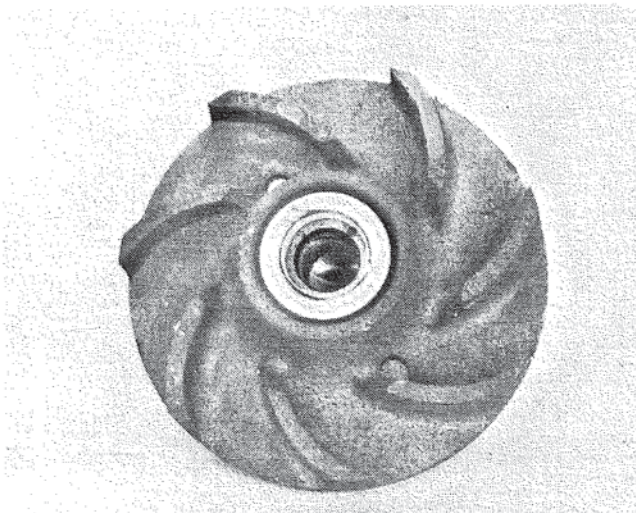

Figure 9. Inspecting Impeller Bore.
6. The mating part to the mechanical seal is located in the impeller bore. Figure 9. Inspect it. Pry it from bore, if needed, and carefully press a new seal in so it is flush with the impeller bore.